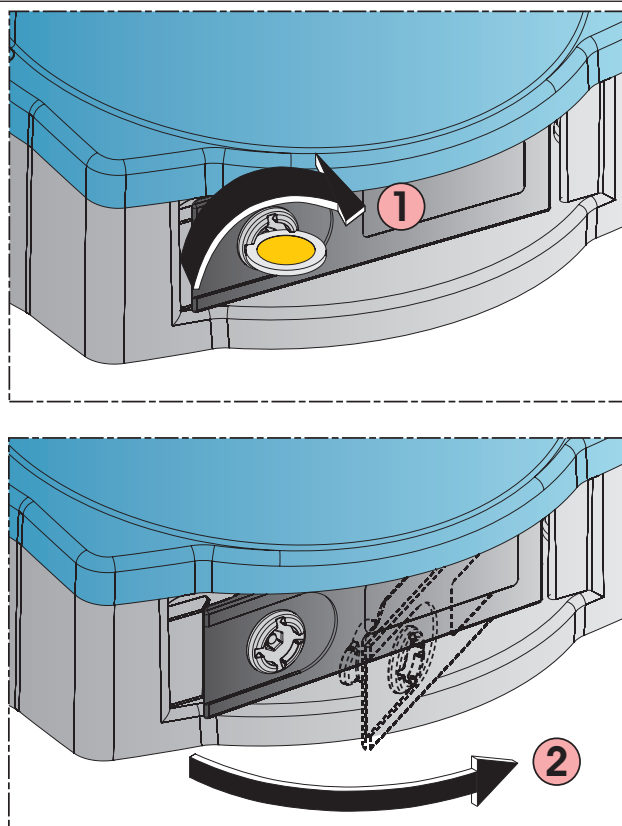

Fig. 1
2. Using a coin, turn the lock clockwise until it stops (Fig. 1 ref. ①);
3. Pull the lever as shown in Fig. 1 ref. ②